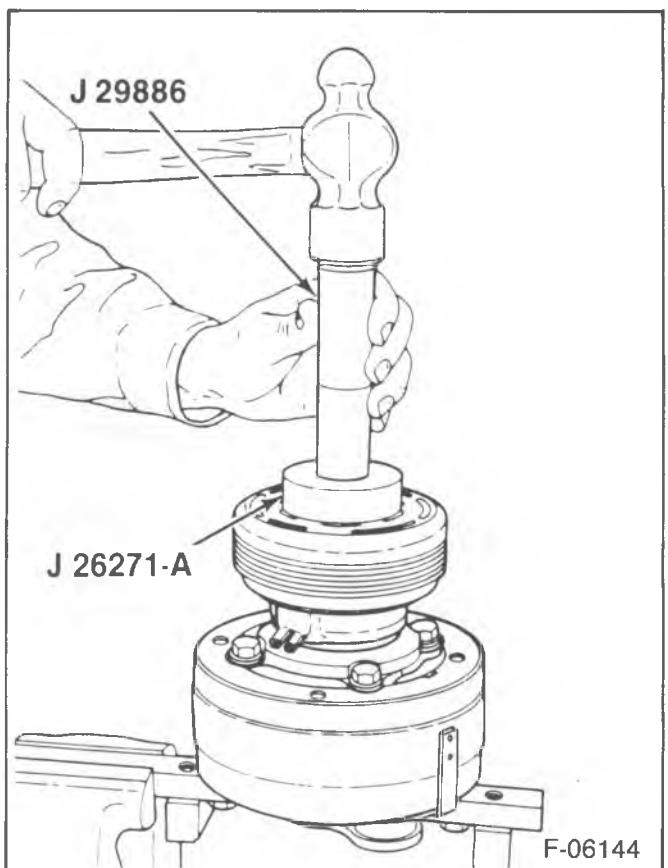

Figure 29—Installing the Rotor and Bearing Assembly — Poly-Groove Type
- 5. Clutch coil assembly using J 26271-A and J 29886 (figure 29).
3. Clutch coil assembly using J 26271-A and J 29886 (figure 29).